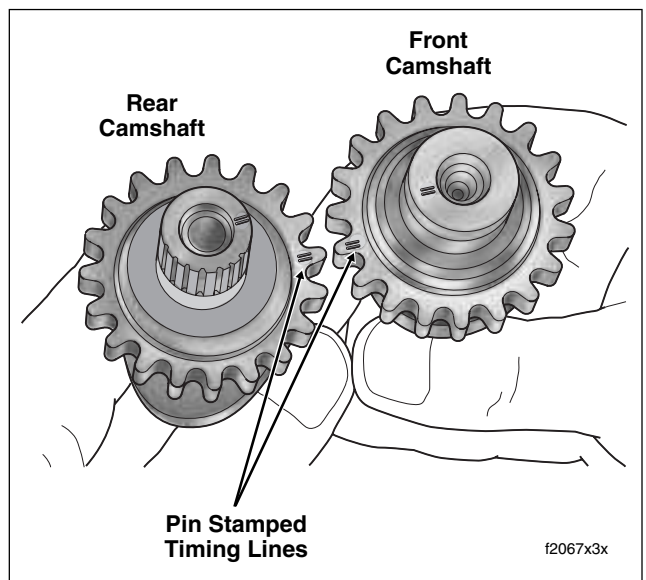

Figure 3-111. Align Timing Lines on Teeth of Camshaft Sprockets
9. Align pin stamped timing lines on teeth of secondary cam sprockets (outboard faces). See Figure 3-111. Using a colored marker, carefully mark the timing line locations on the inboard side of the sprocket teeth. These marks are needed to observe proper orientation of the camshafts when they are pressed into the bearings.